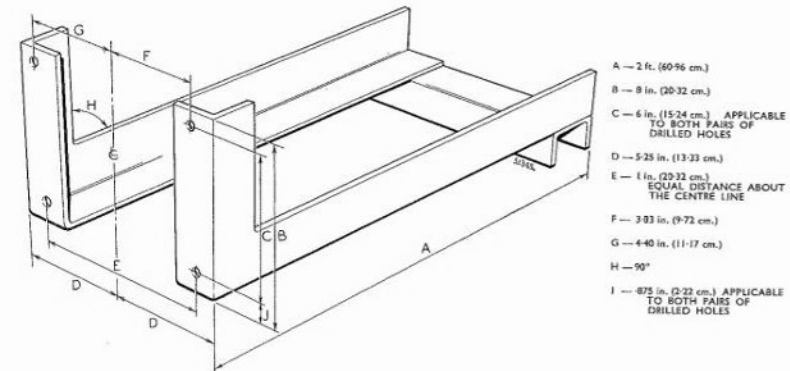

Fig. B.124. Engine removal support bracket dimensions
23. Using a locally manufactured support bracket to the dimensions given in Fig. B.124, bolt to the clutch housing, employing the gearbox securing holes. Position a trolley jack and wooden block, or an adjustable height